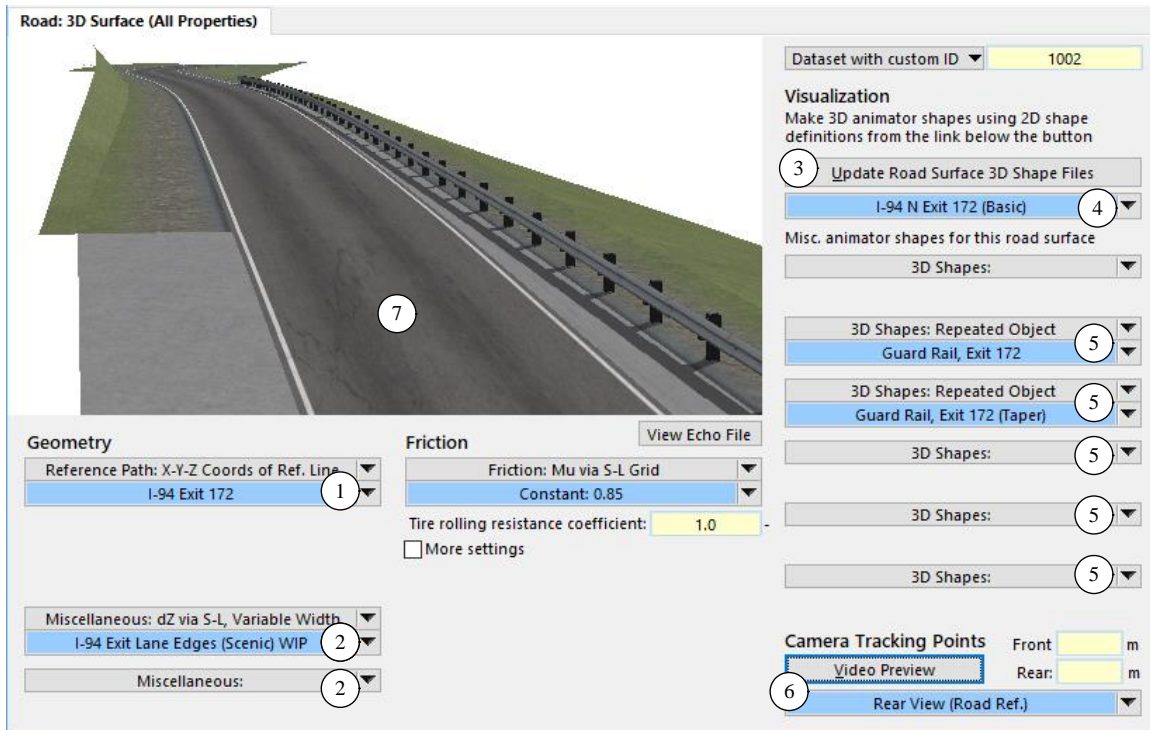
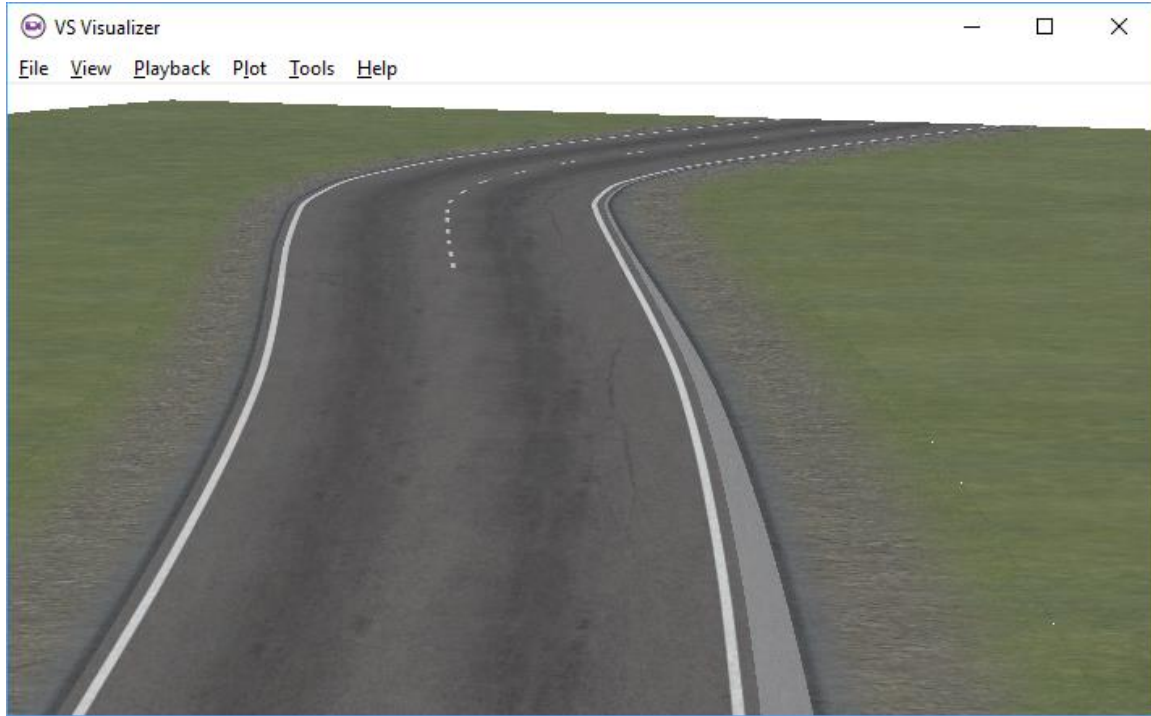
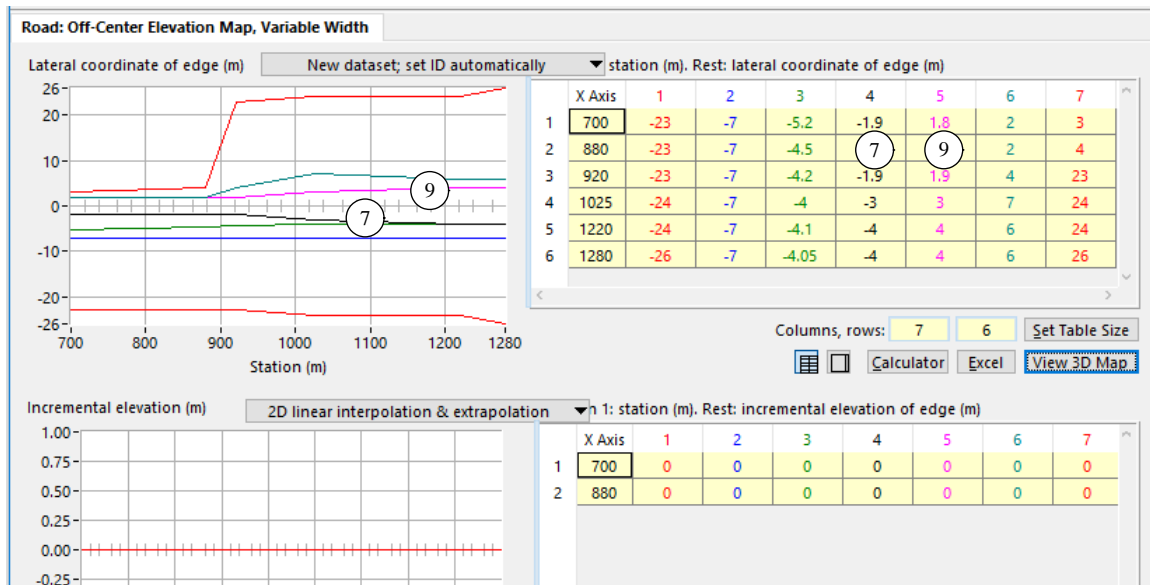

Figure 2. Road: 3D Surfaces (All Properties) dataset assembles datasets for a road surface.
Figure 9. Highway exit road with variable-width lanes.
Figure 11. Variable Width Elevation Map used to define edges.
A VS Road Surface is an assembly of datasets that use the same  $S$ - $L$  coordinate system of a VS Reference Path. The datasets that make up a VS Road Surface are linked together using a dataset in the **Road: 3D Surface (All Properties)** library (Figure 2), described in the **Help** menu document *Paths and Roads*. The controls that are numbered in the figure involve the visualization of the road surface.
- ① Link to VS Reference Path that defines the  $S$ - $L$  coordinate system for the road. Depending on the library where the dataset is located, it might also include elevation information for the reference line, and even animator assets. This is the only link on the screen that is mandatory.
- ② Link(s) to dZ datasets that define a component of elevation as a 2D function of  $S$  and  $L$ . One of the libraries that may be used here is **Road: Off-Center Elevation Map, Variable Width**, which defines edges of lanes that may vary with  $S$ . Datasets from this library support elevation details for variable-width road surfaces, and support visualization of variable-width lanes. In Figure 2, for example, the concrete lane on the right side of the road narrows, as does the asphalt and grass lanes on the left side to the road. In addition, the travelled part of the road widens with station (these properties are seen more clearly in Figure 9, page 8).
- ③ Button to have the Browser generate polygon shapes. This uses the 3D road data from the links on the left side of the screen (① and ②), in combination with a linked dataset containing animator shape definitions (④).
- ④ Link to a dataset from the **Road: Animator Surface Shapes** library, described in the following section.
BikeSim, CarSim, and TruckSim use a VS Solver called VS Road Calculator to calculate X-Y-Z coordinates of triangles assembled into shapes for VS Visualizer. The software includes many 2D material types (textures defined with images and support files for lighting, reflectiveness, blending, etc.) to render realistic looking surfaces for the generated shapes (Figure 2 and Figure 3).
When defining a strip which has variable width, lateral boundaries can be specified using edges. For example, Figure 9 shows a highway exit road that starts with one traffic lane and then widens to two lanes. A concrete lane on the right side starts with a full width at the start (not visible in the figure) and eventually narrows to almost nothing. This is the same road surface that was shown earlier (Figure 2, page 3), but stripped down - in this case only the basic road geometry is described.
Figure 10 shows the **Road: Animator Surface Shapes** dataset for this road surface. Notice that all Units for **L Start** and **L Stop** are set to **edge** (8) and (10). The edges themselves are defined in another dataset using the **Road: Off-Center Elevation Map, Variable Width** screen (Figure 11), which can provide incremental elevation using edges whose L coordinate may vary with station.
In the example shown in Figure 9 and Figure 11, the variable-width dataset has no incremental elevation data; it exists solely to define edges that can be used to make animator shapes.
When a **Units** drop-down control (8) and (10) is set to **edge**, the preceding value is an integer that identifies a column in the 2D table from a dataset from the linked **Road: Off-Center Elevation Map, Variable Width** library. For example, the first row of the table in Figure 10 sets **L Start** to edge 4 (7) and **L Stop** to edge 5 (9). The plots of Lateral coordinate for the edges in Figure 11 show how the strip between these two edges (4 and 5) widens as Station increases.
Keep in mind, to use edges for defining strips a **Road: 3D Surface (All Properties)** dataset must link to both a **Road: Off-Center Elevation Map, Variable Width** dataset, (Figure 2, page 3) that defines the edges (1) and a **Road: Animator Surface Shapes** dataset that uses them (4).